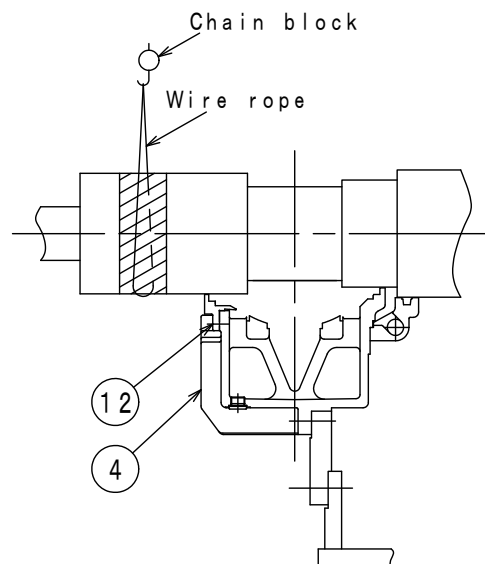

Fig. 13-9
(7) Disassembly of bearing housing lower half (see Fig. 13-9)